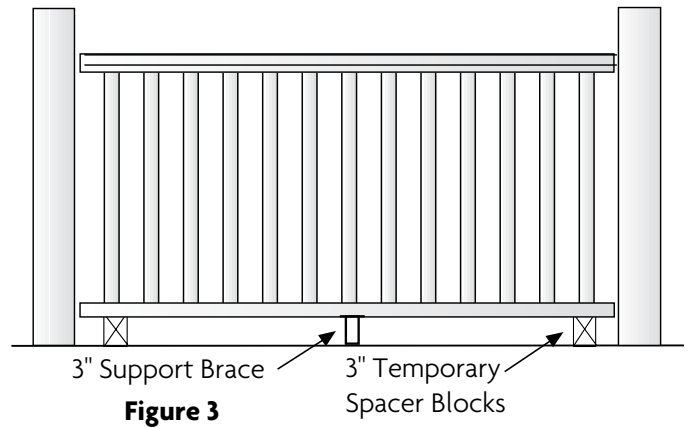

Figure 3
- 5.) Slide rail section in-between posts and on top of temporary wood spacer blocks (position wood spacer blocks next to installed vinyl posts) (Figure 3).